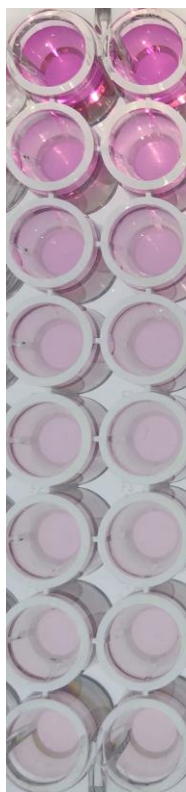

Fig.1: Example of coloration of urea standard solution
6. After heating, remove the aluminum foil and accelerate the reaction under a UV lamp until sufficient color is observed. 15 minutes to 1 hour under a UV lamp is sufficient. Under natural light or fluorescent light, it takes about 1 to 2 hours. Refer to the example in Figure 1 for the degree of coloration.